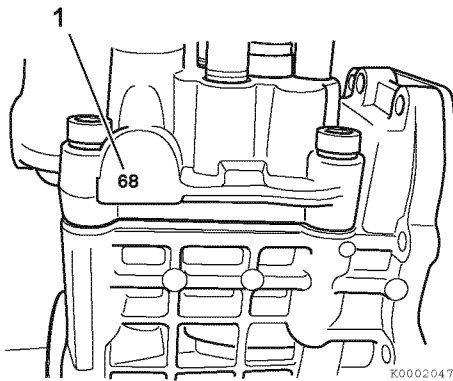

Figure 7-17
22. Remove the fuel injection pump (Figure 7-16, (1)). For purposes of future injection timing purposes, record the fuel injection pump timing index number located on the boss on the engine side (back) of the of the fuel injection pump (Figure 7-17, (1)).